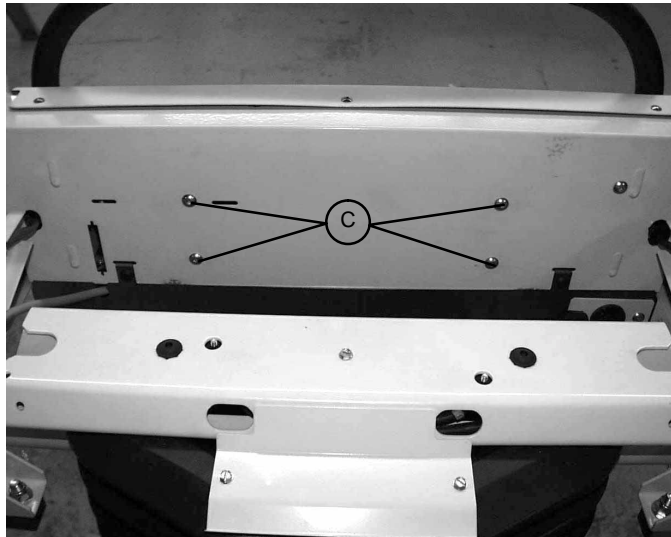

FIGURE 2
- Using a T27 Torx, remove the four bolts (C) at the head end of the bed holding the control bar mounting bracket to the head end (see Figure 2).